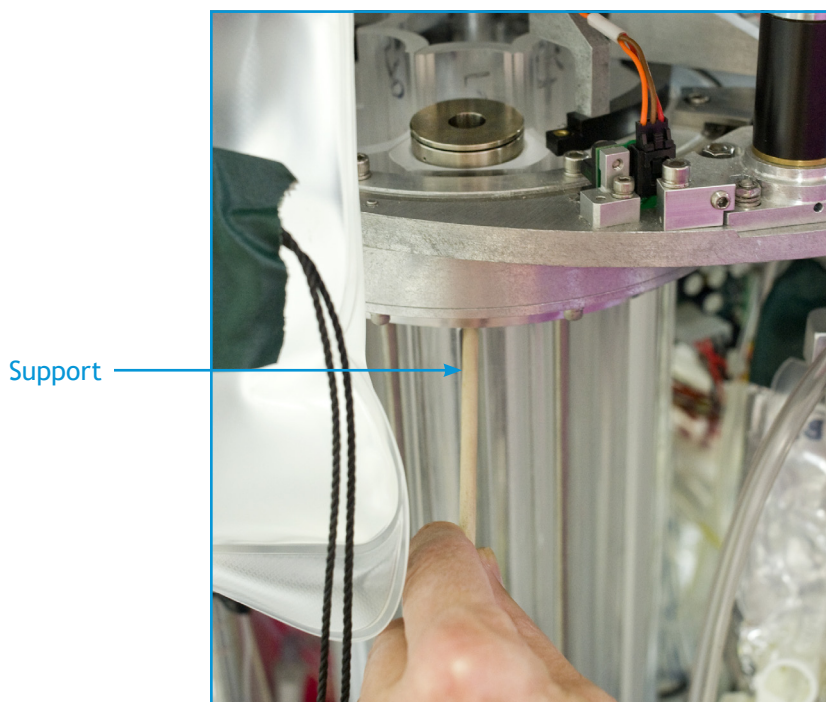

Figure 3-20: Raising stack to load a puck
- Loading the tube from the bottom up, take a prepared puck, verify it against the carousel loading map, and place the puck in the tube on top of the stick (Figure 3-20). Lower the support just enough to allow next puck